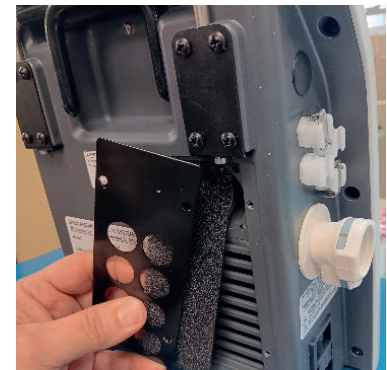

Figure 2
2. With plate off, pull filter out [Figure 2].